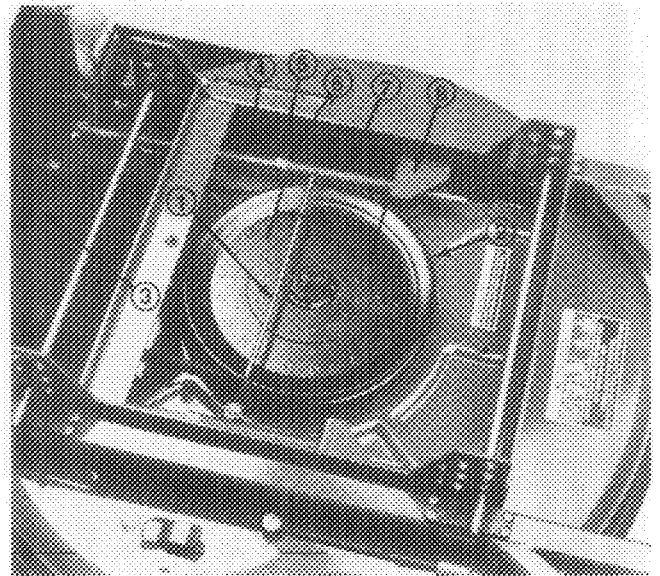

Figure 15
3. Loosen jam nuts on each adjusting shaft and remove blade drive belt (Fig. 15).
3. Install new belt around spindle pulley and engine pulley (Fig. 15).
3. Remove nut and flatwasher retaining pulley on spindle shaft (Fig. 15). Pull pulley off shaft.